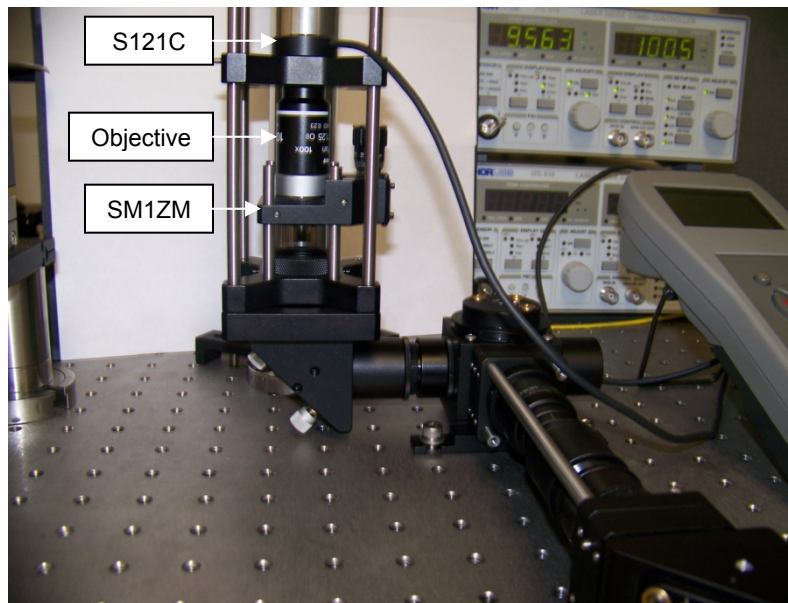

Figure 4.3.3: Power measurement above objective
17. Remove one ER8 rod, where the SM1Z adjuster is situated and slide the SM1Z onto the ER3 cage rods from Step 7 as shown in Figure 4.3.3.
****As a guideline, with the S121C sensor placed about 0.5" above objective (see Figure 4.3.3), with diaphragm below objective fully open, the measured power should be around 6mW or more when driving the PL980P330J with 100 mA of current (14 mW at 130 mA drive current).****